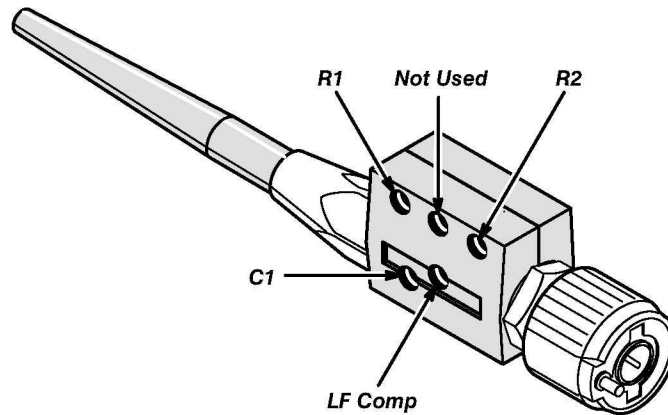

Figure 5-9: Locations of P6139A Probe Adjustments
- Locate the various adjustments in Figure 5-9.